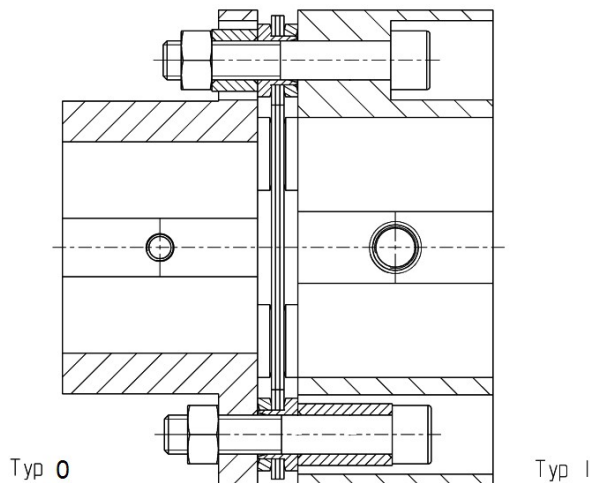

Figure 9.1: Assembly of RDL...DSO
3. Insert the disc pack between the hubs as shown in figure 9.1.
4. Insert the spacer sleeve (item 4) onto the screws (item 6) and guide it through the large bore in the hub, disc pack and the second hub.